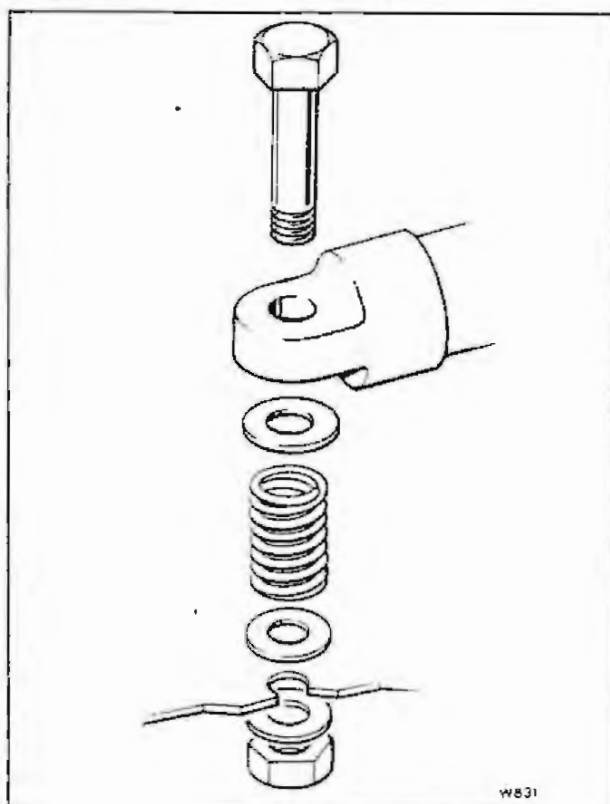

Fig. 4
7. Remove the three setscrews securing the mechanism to the top bearing plate and remove the damper mounting bolt, making a note of the position of the washers (see fig. 4).